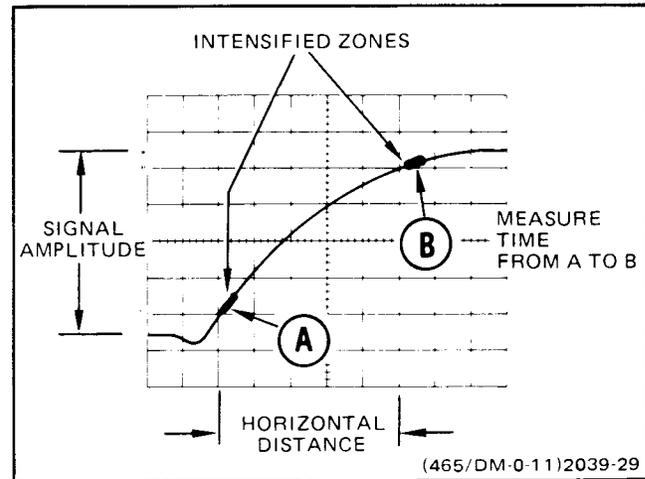

Figure 45. Rise time, differential time method.
3. Vertically position the trace so that the zero reference of the waveform touches the 0% graticule line and the top of the waveform touches the 100% graticule line (see Figure 45).
waveform intersects the third vertical graticule line (see Figure 45).
6. Rotate the DELAY TIME POSITION control to move the start of the intensified zone (left-hand edge) until it just touches the intersection of the signal and the 10% graticule line (see Figure 45, point A).
8. Rotate the DELAY TIME POSITION control to move the start of the intensified zone (left-hand edge) until it just touches the intersection of the signal and the 90% graticule line (see Figure 45, point B).